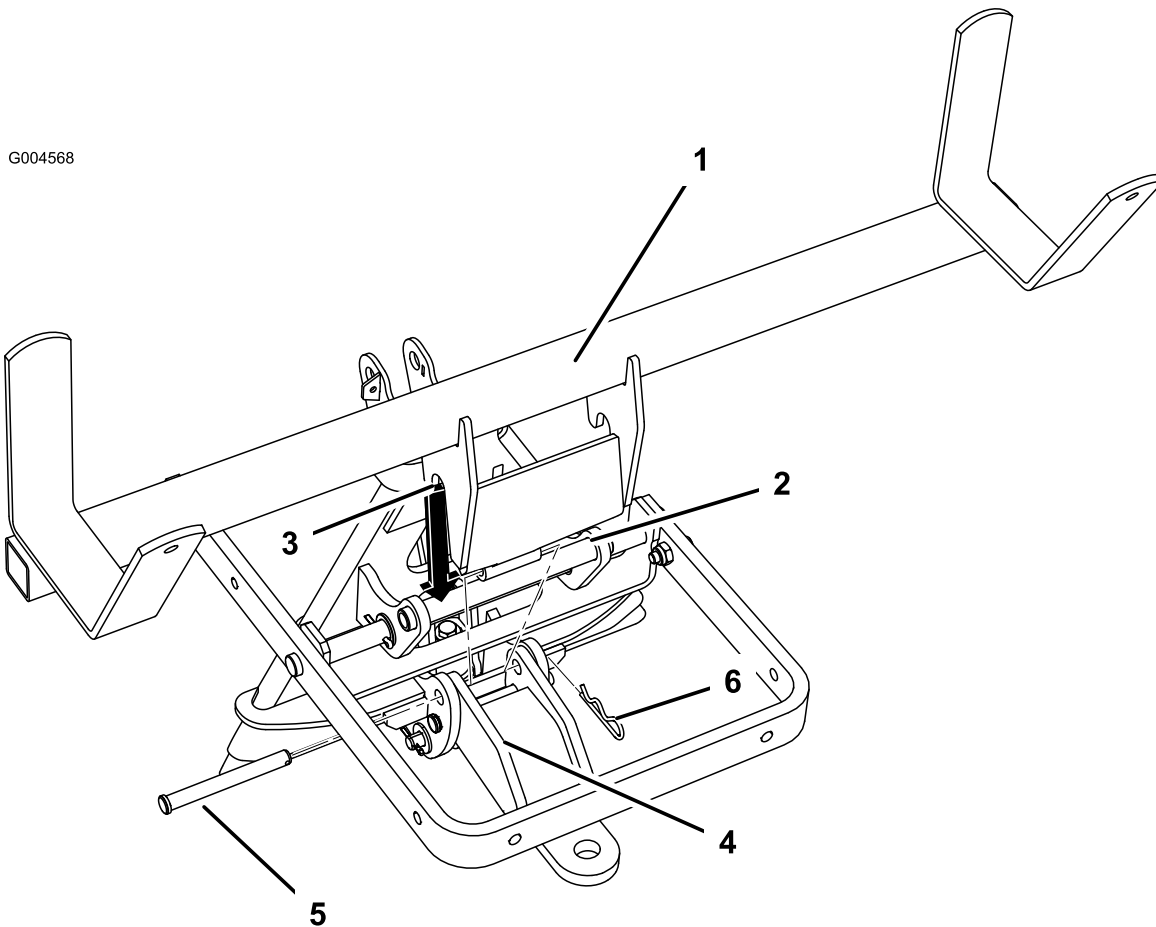

Figure 1
1. Install the drag mat carrier to the tow hitch assembly as shown in Figure 1.